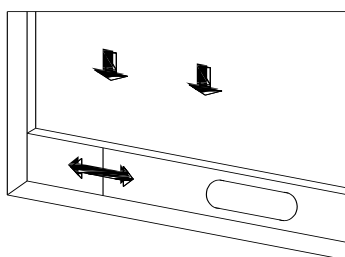
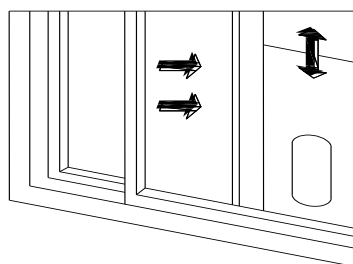

Fig. 2
Fig. 3
- 1) Partly open the window and fit the window sealing plate assembly into the window (see Fig. 2 and Fig. 3). The plate parts can be placed both in horizontal and vertical positions.